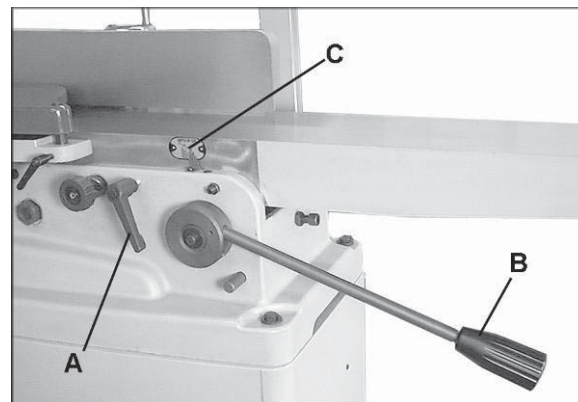

Figure 28
6. Raise the infeed table until it contacts the straight edge. To raise the infeed table, loosen the locking handle (see A, Figure 28) and lift the adjustment arm (B, Figure 28). When it contacts the straight edge, tighten the locking handle (A, Figure 28).
7. Lower the infeed table out of the way, by loosening the locking handle (A, Figure 28) and pushing down on the adjustment arm (B, Figure 28).